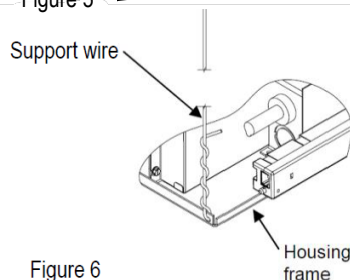

Figure 6
3. Secure fixture to structural ceiling utilizing support wires (provided by others). See Figure 6.